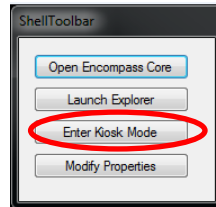

Figure 5-51: Shell Toolbar
- 5.19.1. If exited from the UI, tap the “Kiosk Mode” button on the Shell Toolbar (Figure 5-51) to restart the the EncompassMDx® UI software.